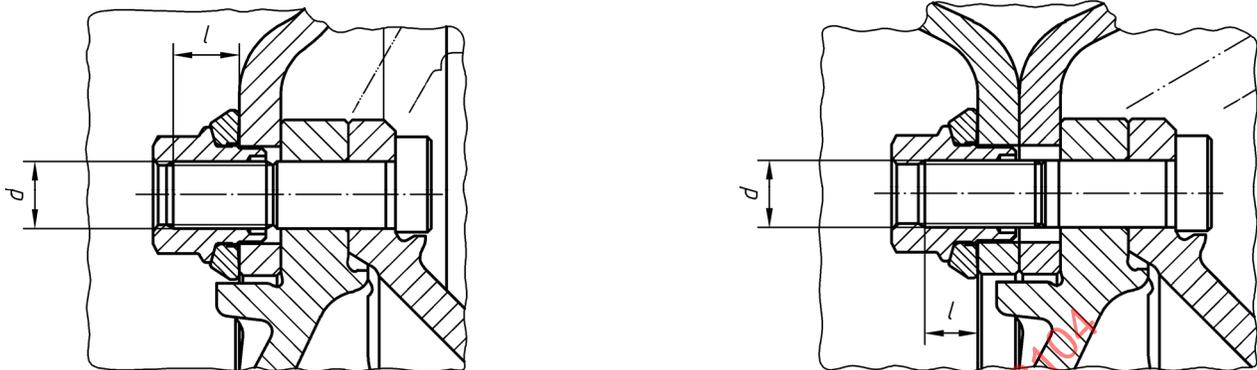

Figure 7 - Single and dual wheel mounting with short sleeve nut K
Nuts with short sleeve K for use with single or dual aluminum wheels must meet the requirements of Figure 7 and Tables 5 and 6.
1. The length of thread engagement above the flange/wheel interface (shown as “ l ” in Figures 7 and 8).
l See Figures 7 and 8.